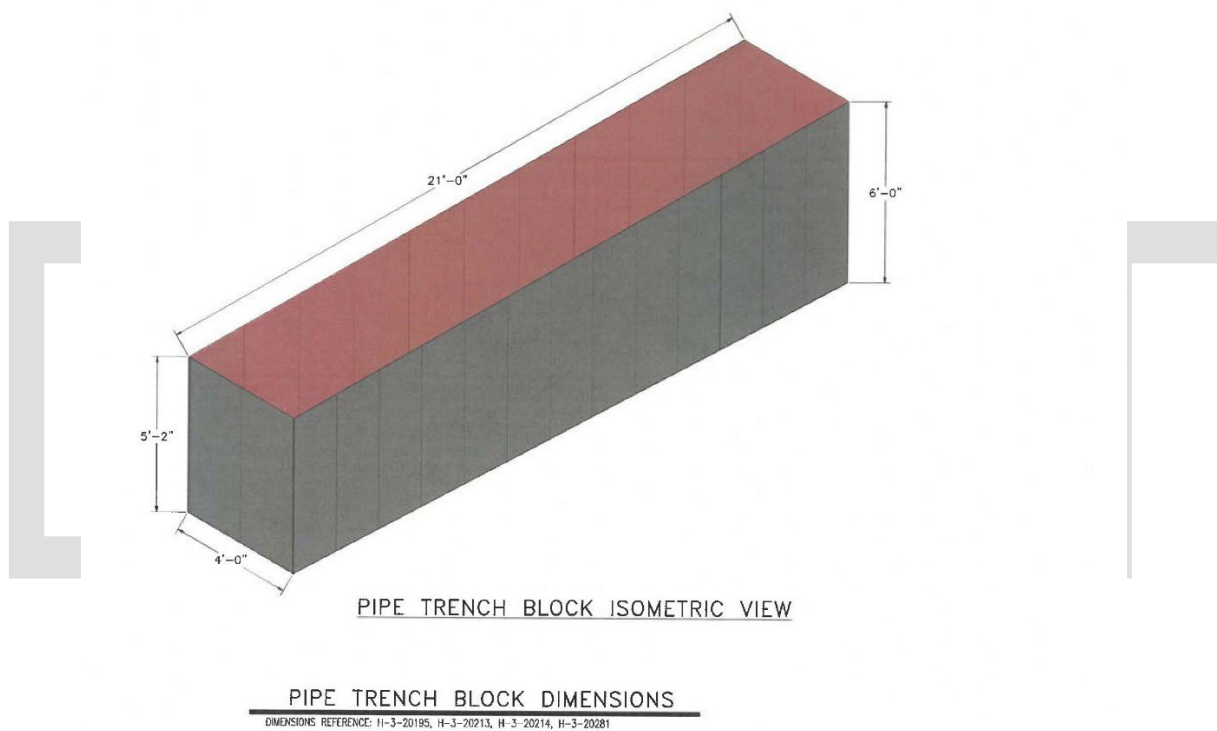

Figure 2: Pipe Trench Block Dimensions
1. Assemble a half-length mockup of the Pipe Trench. The Pipe Trench is 21' long, 4' wide and 5' to 6' tall with a sloping bottom. Penetrations into the trench are 5' long, 1' below the trench top (See Figure 2). A half-length mockup will be 10.5' long.